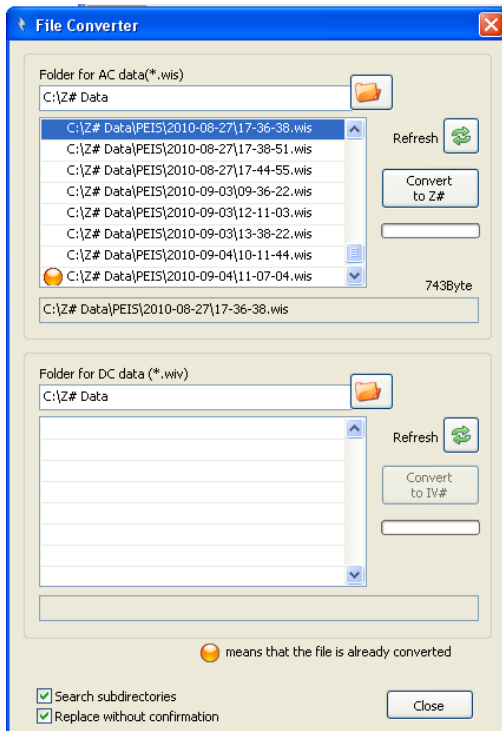

Figure 12 File converter menu
**File converter:** Used for converting Z100 native files “Binary file” (\*.wis, \*.wiv) to “ASCII file” (\*.z#, \*.iv#). See Figure 12.